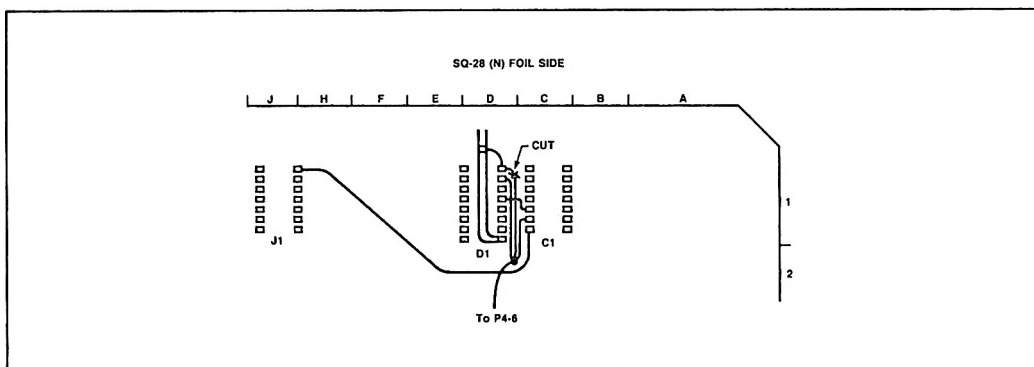

Figure 2
5. On foil side, cut trace at D1-1 and connect D1-1 to ground (Figure 2).
6. Add the following jumpers (Figure 2):